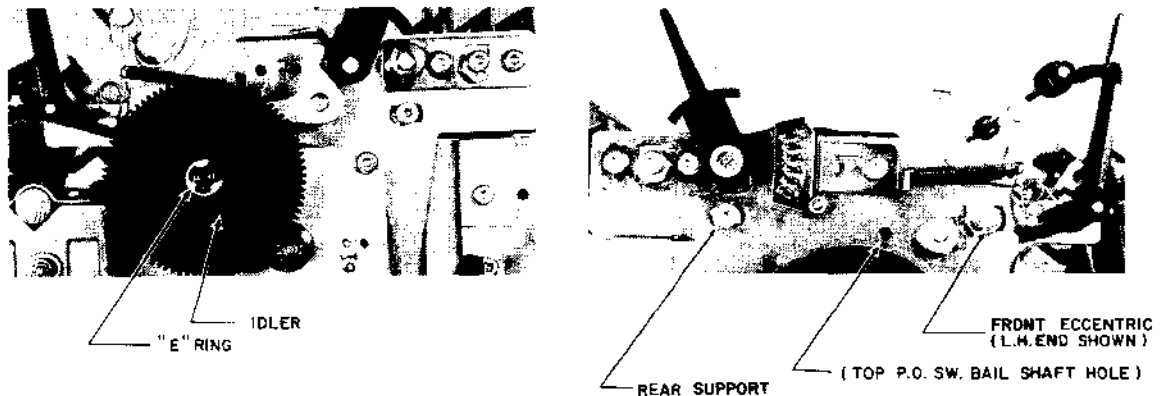

Figure 5-7 CARRIER SYSTEM REMOVAL - B
Store the springs, gear and the E ring in a safe place. Refer to Figure 5-7.
5. Remove the left- and right-hand front Carrier Subassembly height adjustment eccentrics using a 1/4" wrench or nut driver. Remove the left- and right-hand Carrier Subassembly support screws and shoulder spacers, using a TORX T15 screwdriver. Store these items in a safe place. Refer to Figure 5-7.
- c) Referring to Figure 5-7, remove the E ring and idler gear.